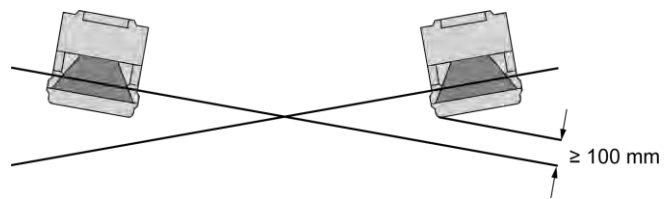

Figure 3-7. Adjacent mounting without height offset and with crossed alignment
- Install scanners with Protective Fields with a crossed alignment (see Figures 3-7 and 3-8).